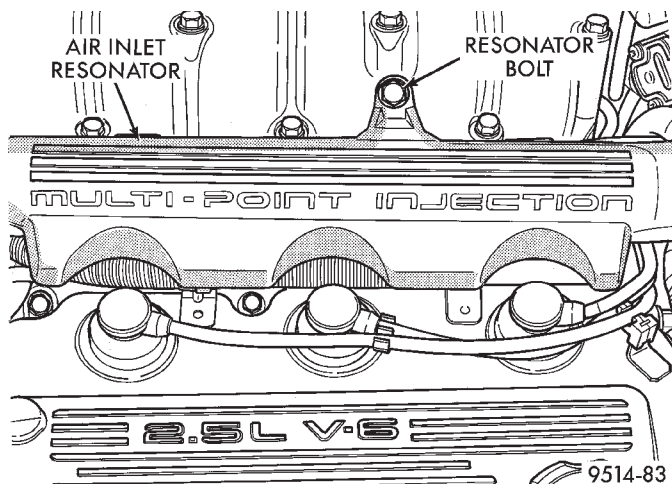

Fig. 37 Air Inlet Resonator
(4) Remove bolt holding air inlet resonator to intake plenum (Fig. 37).